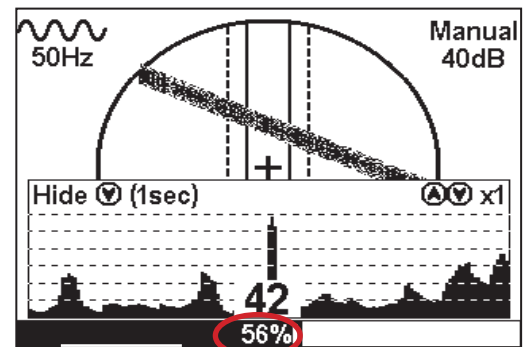

Fig. 10.4
Install on «induction pliers» KI-110 (fig. 10.3) or apply NP-117 (fig.10.4) onto the one of cables.
**Before starting the operation you should set the switch into the position «O».** If during the search process, with the amplification coefficient 0 dB, the input signal level is greater than 70%, you should switch the sensor regulator to «I» position and with a further increase of the signal to the position «II», and then perform the adjustment of the coefficient of amplification of the receiver to the level of the input signal 50 to 80%. (**Fig. 10.4**)